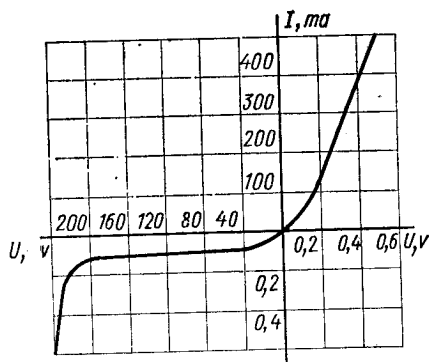

Fig. 10. Volt-ampere characteristic curve of a $p-n$ junction
6. The battery connection that permits current to flow across the $p-n$ junction is known as forward bias. A minimum voltage of about 0.1 volt is needed to overcome the potential barrier at the junction and permit any current to flow as shown in Fig. 10. The current then increases rapidly with increasing battery voltage.